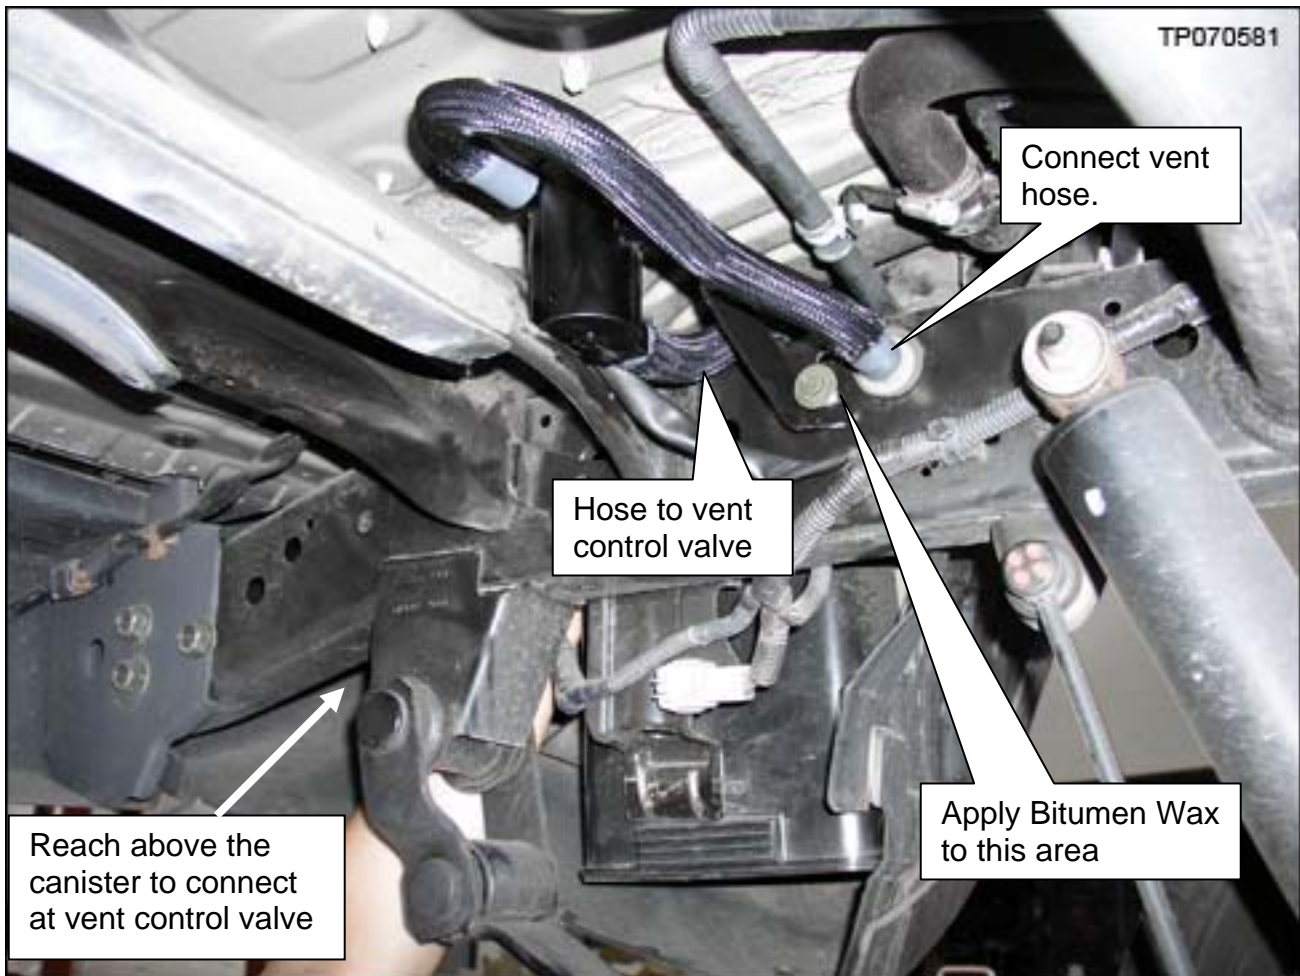

Figure 9
13. Attach the filter to the bracket and connect the hoses as shown in Figure 9.